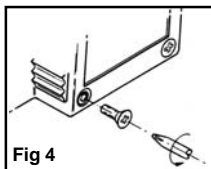

Fig 4
- Remove the posidrive screws from the panel beneath the front window with the screwdriver supplied. (Fig 4)